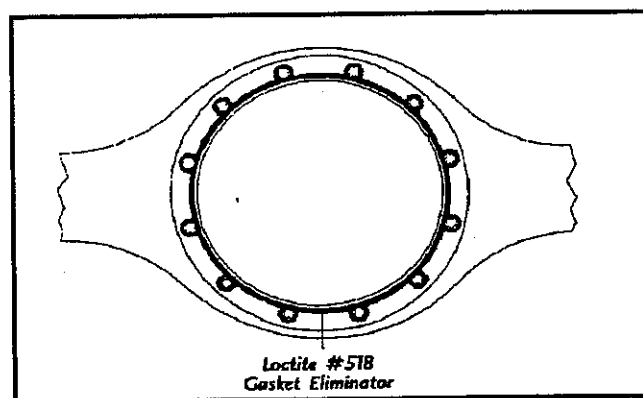

Figure 32—Apply Loctite
1. Apply an 0.125 inch (3.175 mm) diameter bead of Loctite number 518 gasket eliminator around the axle housing and around each bolthole. (See Figure 32—Apply Loctite.)